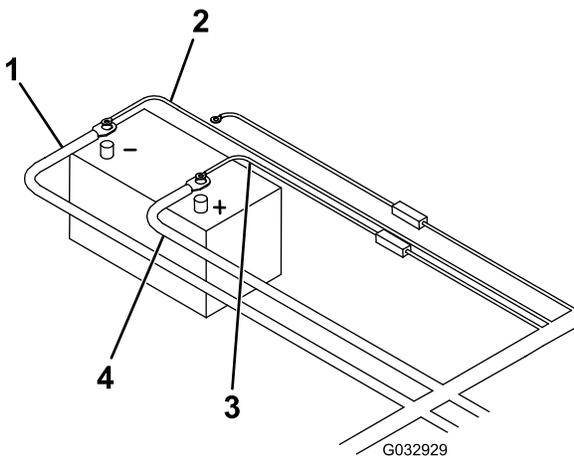

Figure 19
23. Connect the black power/ground cable to the negative (-) battery terminal (Figure 19).
- 24. Connect the brown wire to the negative (-) battery terminal (Figure 19).
- 25. Connect the free end of the battery cable to the positive (+) battery terminal (Figure 19).
- 26. Connect the red, fused wire to the positive (+) battery terminal (Figure 19).